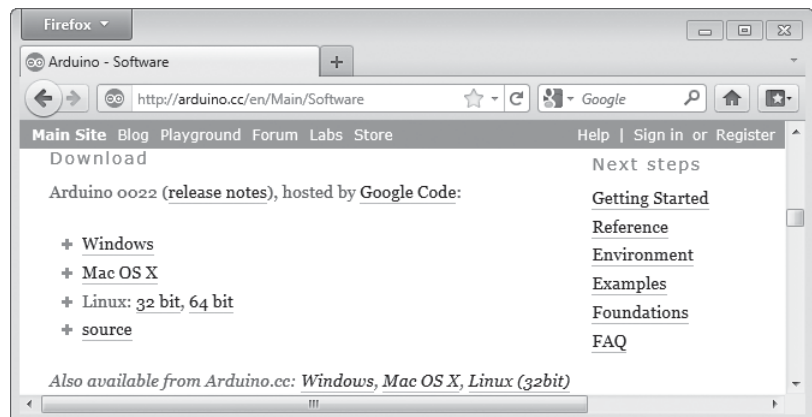

Figure 1-15: The IDE download page in Windows Firefox
1. Using a web browser such as Firefox, visit the software download page located at <http://arduino.cc/en/Main/Software/>, as shown in Figure 1-15.